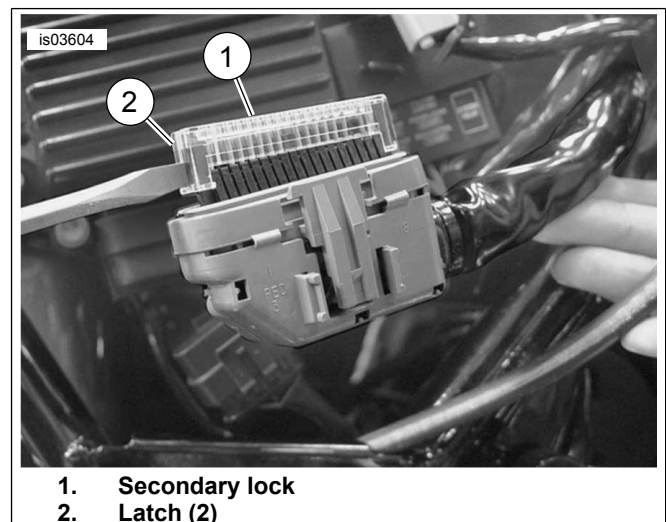

Figure 7. Remove Secondary Lock
4. See Figure 7. Using screwdriver, remove clear plastic secondary lock from ECM connector.
3. See Figure 7. Using screwdriver, remove clear plastic secondary lock from ECM connector.